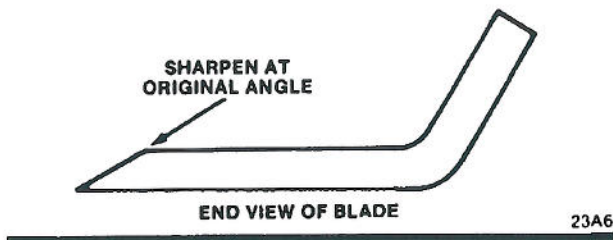

Figure 17
- 5. Using a file, sharpen cutting edge at both ends of the blade (Fig. 17).
IMPORTANT: Sharpen top side of blade and maintain original angle to assure a sharp cutting edge (Fig. 17). Blade will remain balanced if same amount of material is removed from both cutting edges.